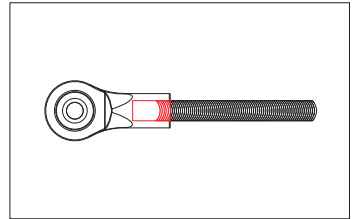

Fig. 13: Screwing in the threaded rod
5. Screw the threaded rod into both heads of the coupling rod approximately 10 turns. This will allow you an adjustment range of approximately ± 10 mm in length for any necessary adjustments later. (Fig. 13)